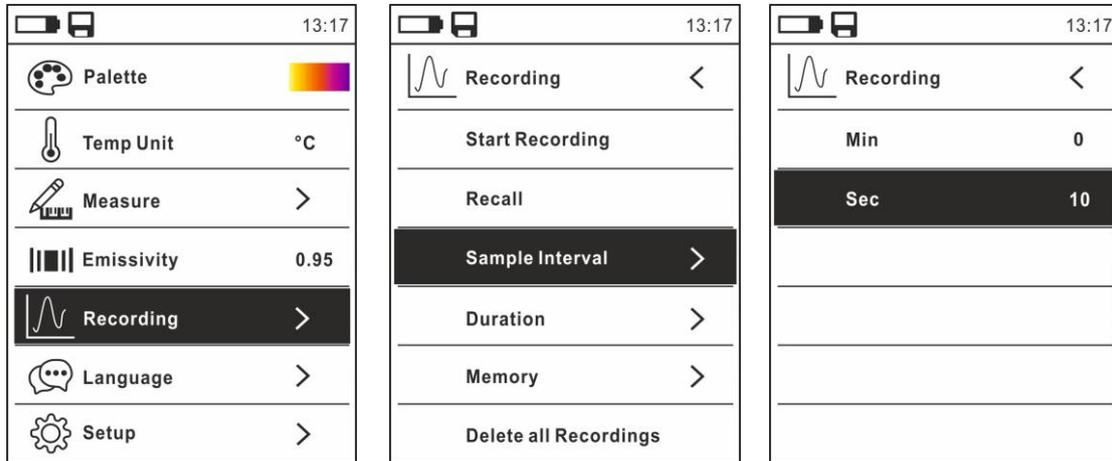

Fig. 31: Data logger function – Setting of the sampling interval
2. Press key **MENU** , select item “Recording” and press key **▶**. The screen in Fig. 31 – left side appears on the display.
3. Select item “Sample Interval” (see Fig. 31 – middle) and press key **▶** to select the sampling interval for recording. The screen in Fig. 31 – right side appears on the display.